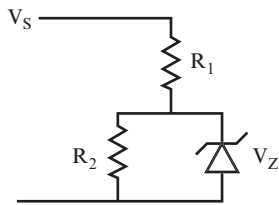

FIGURE 12.2
20. For the circuit shown in Figure 12.2, $V_s = 100 \text{ volts}$, $R_1 = 7.2 \text{ k}\Omega$, $R_2 = 4 \text{ k}\Omega$, and $V_z = 28 \text{ volts}$. Find the current through the zener diode, I_z . _____
- 21.** For the circuit in Figure 12.2, $V_s = 10$ volts, $R_1 = 1 \text{ k}\Omega$, $R_2 = 10 \text{ k}\Omega$, and $V_Z = 6.3$ volts. Find I_Z . _____